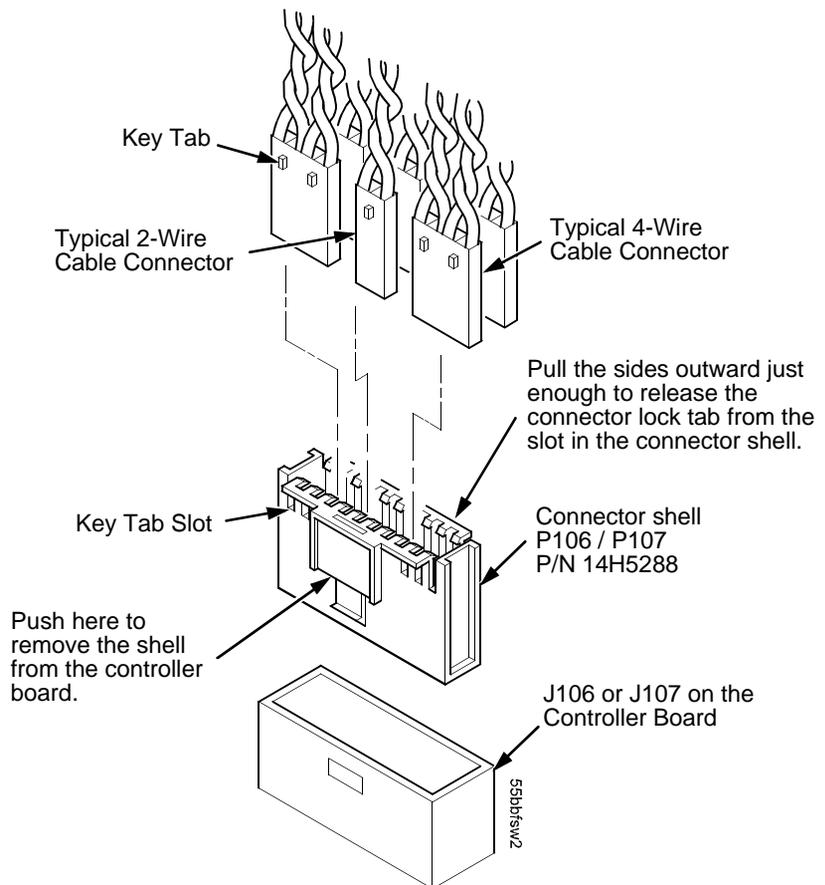

Figure 14. Cable Connector Shell, Disassembly/Assembly
5. Pull the side of the connector shell outward and gently pull the cable connector upward. (See Figure 14.) Notice that two-wire connectors are grouped across from two-wire connectors in a connector shell. Four-wire connectors are grouped across from four-wire connectors in a connector shell.
1. Position the cable connector in the connector shell. Two-wire connectors are always grouped across from two-wire connectors in a connector shell. Four-wire connectors are always grouped across from four-wire connectors in a connector shell. (See Figure 14.)